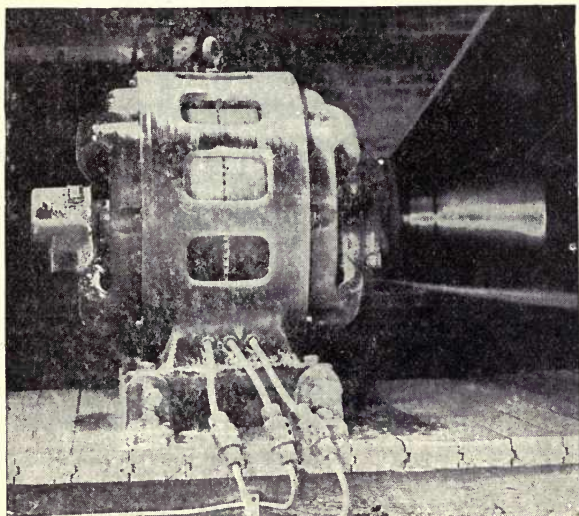

FIG. 88.—An Electric Motor.
**240. Electric Motor.**—*An electric motor (Figs. 88, 89, 90, 91) is a machine for transforming electrical into mechanical energy. An electric current causes the armature to rotate, and the mechanical energy due to the rotation may be utilized to drive machinery. The motor is quite similar to a*